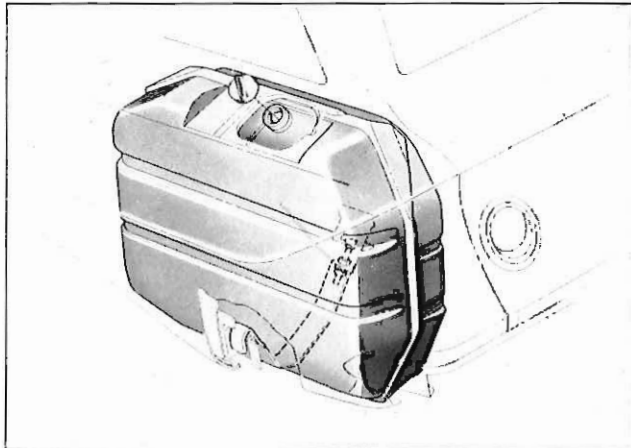

Fig. 9—Station Wagon Fuel Tank Mounting
Fuel tanks for station wagon models are located high in the left rear quarter panel behind the rear wheel (Fig. 9).
Torrington thrust washers are eliminated at the following locations in the 1961 Turboglide: stator-to-third turbine, third turbine to second turbine, the Torrington and race at the forward end of the sprag, at the rear of the sprag, and the Torrington and two races forward of the rear planetary gear-set. For reference, these items are shown in cross section in Figure 9, Section 13, of the 1959-60 Passenger Car Shop Manual Supplement, as items 4 (the two inboard washers), 62, 61, and 55.